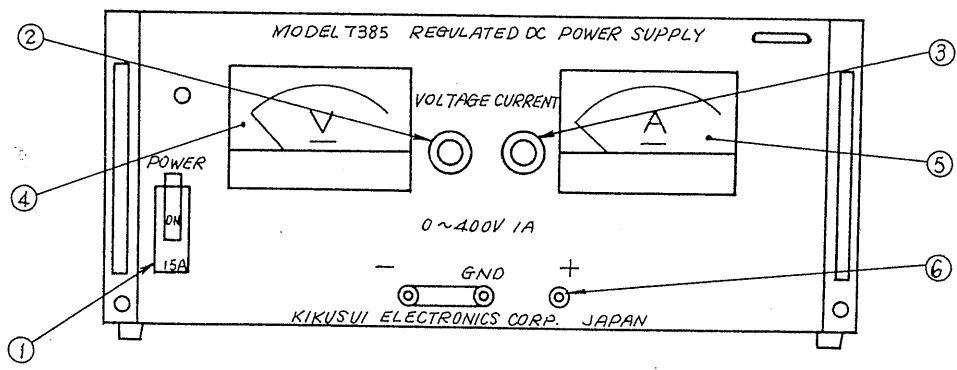

Fig. 3-1 Front panel
3.1 Front Panel Explanation (See Fig. 3-1.)